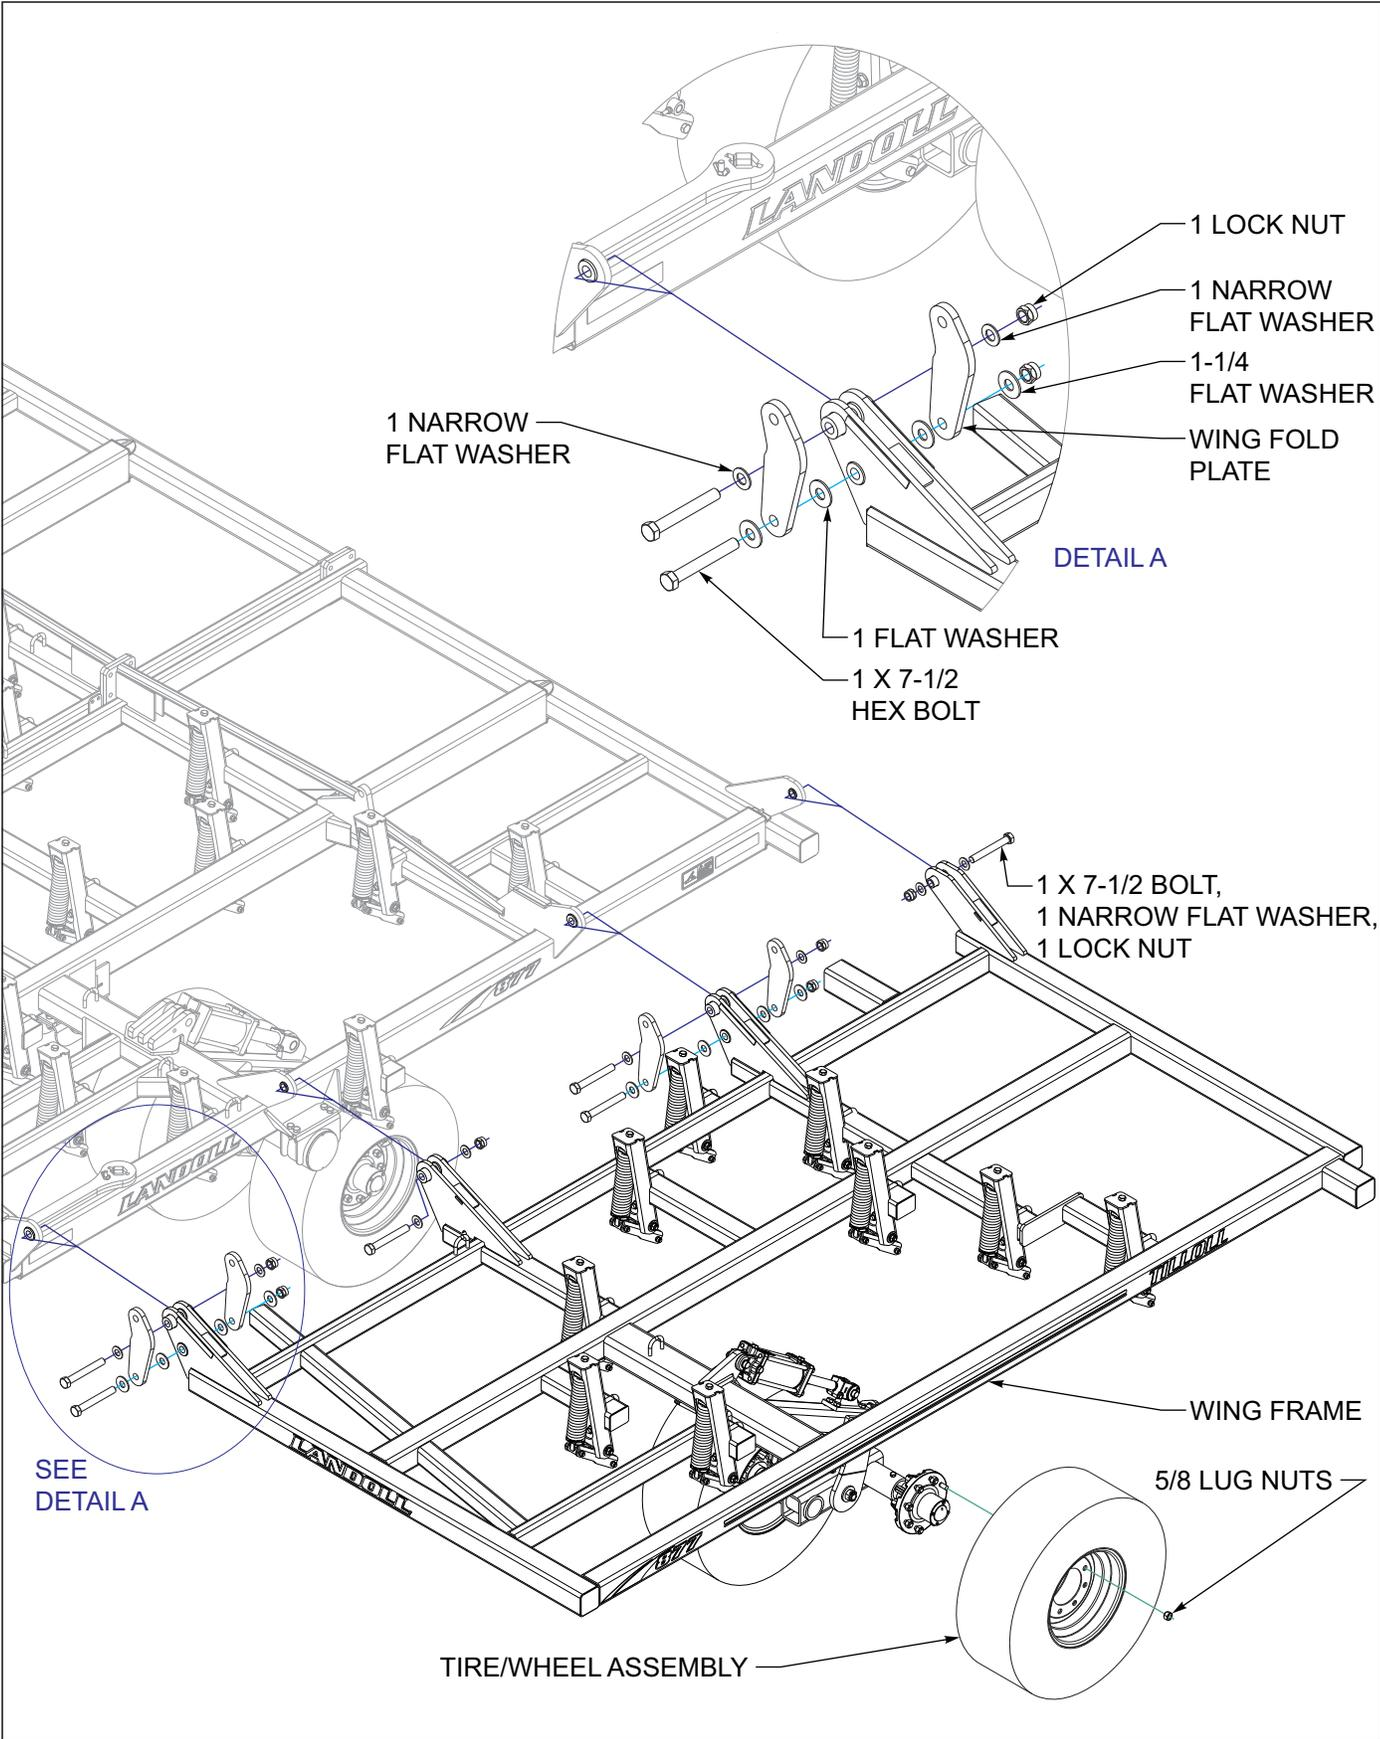

Figure 3-4: Wing Frame Assembly 30'
1. On 30' models, assemble the wing frames to the center frame using 1 x 7-1/2 hex bolts, 1 narrow flat washers and 1 lock nuts **See Figure 3-4**. Assemble the wing fold plates to the wing frames using 1 x 7-1/2 hex bolts, 1 flat washers and 1 lock nuts. Use flat washers on both outside and inside of the wing fold plates.